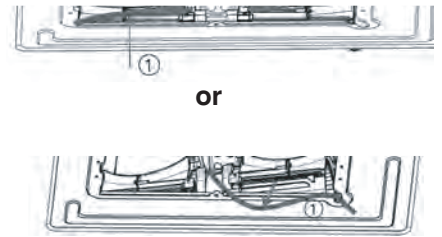

Figure 13
2. Carefully lift the blower unit out of the microwave oven. See Figure 13.